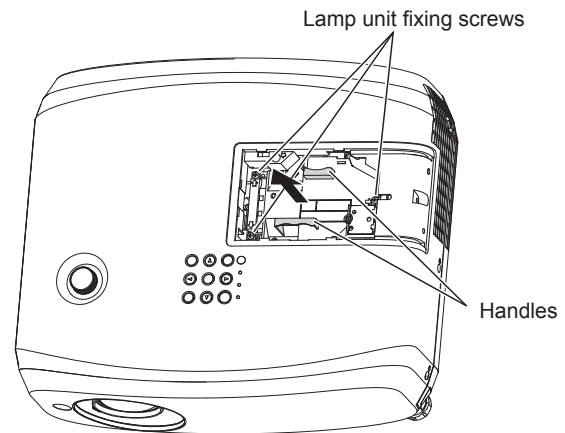

Fig. 2
3) Remove the air filter unit. (Fig. 2)
2) Dry the air filter unit. (Fig. 2)
- 3) Remove the lamp unit. (Fig. 2)**